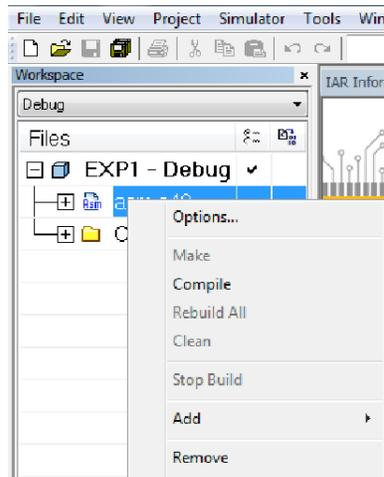

Figure 1.8: Removing asm.s43 from the project tree.
- In the project tree view right click the 'asm.s43' file and remove it by choosing 'Remove'. You will need to confirm removing the 'asm.s43' file, confirm it and the file will be removed from the project tree view. This is shown in Figure 1.8.